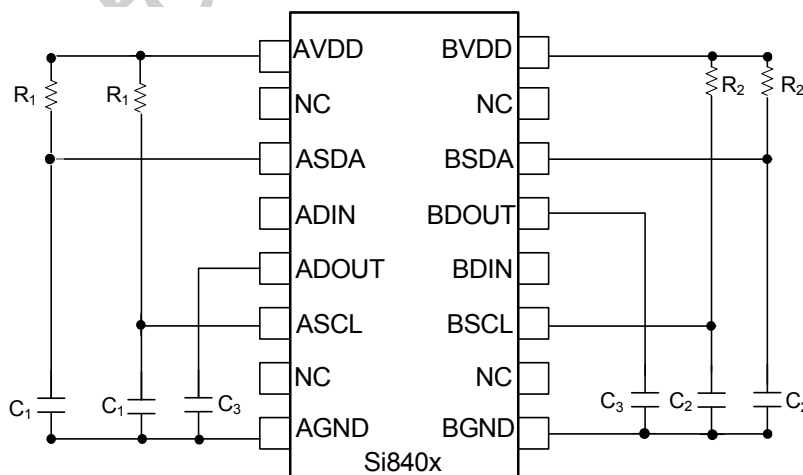

Figure 2. Simplified Timing Test Diagram
3.0 V < VDD < 5.5 V. TA = −40 to +125 °C. Typical specs at 25 °C (See Figures 2 and 16 for test diagrams.)
Figure 2 depicts the timing test diagram.